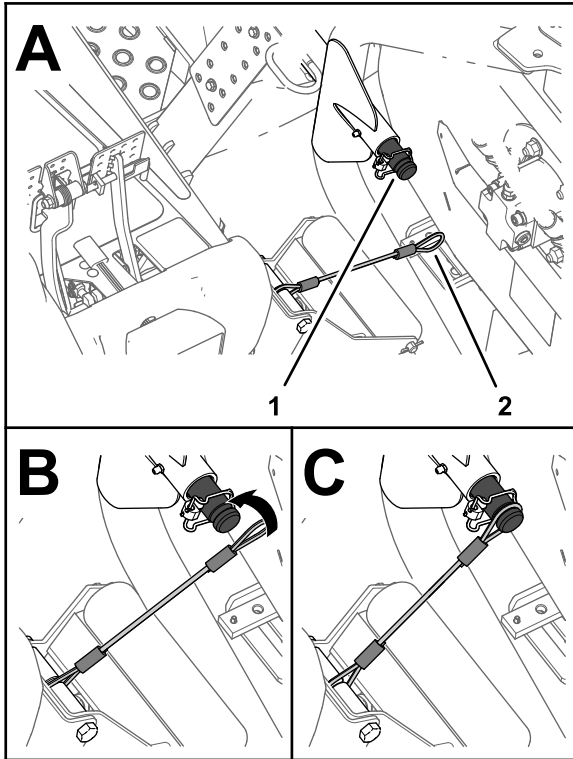

Figure 26
5. Align the lanyard to the carrier shaft of the lift arm for the forward outer-cutting unit (Figure 26).